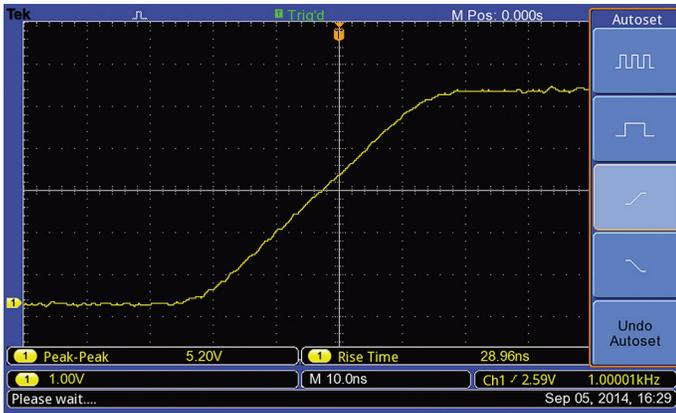

Figure 3. The rising portion of the signal fills the screen.
8. To find the voltage at which the rise time goes out of specification, decrease the voltage of the power controller slowly from max_V to min_V, while the temperature is held steady, until the rise time reaches the maximum value the system allows. Press the "Trend Plot Run/Off" bezel button to stop the Trendplot. The final voltage is the minimum that results in a valid rise time. (see Figure 3).